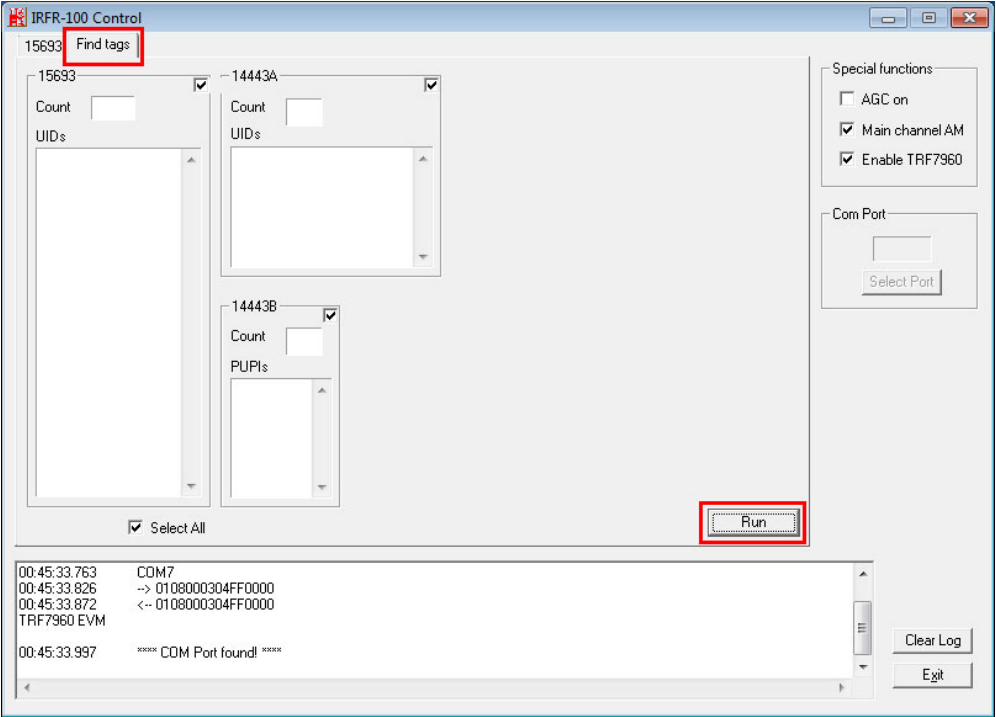

Figure 3-14: IRFR – Find Tags
Step 4: Select the **Find tags** tab and click the **Run** button to enable the RFID reader (**Figure 3-14**).